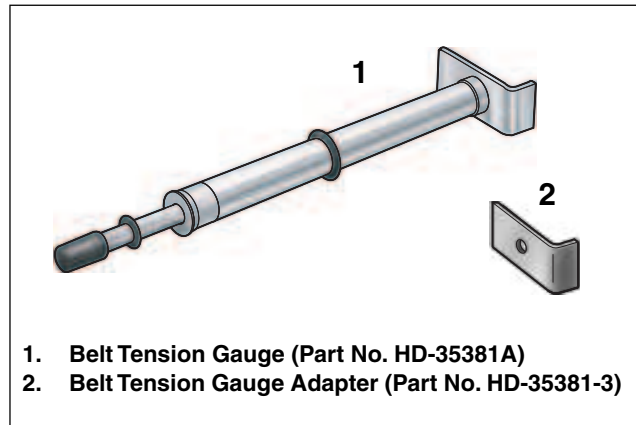

Figure 1-13. Obtain Belt Tension Gauge
2. Obtain BELT TENSION GAUGE (HD-35381A), or install adapter (HD-35381-3) on old style gauge. See Figure 1-13.